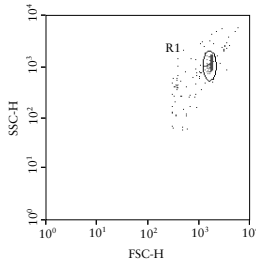

Figure 2a
Adjust gate R1 so that the singlet bead population is located in gate R1 (*Figure 2a*).
6. In setup mode, run tube no. 1, and using the FSC vs. SSC dot plot, place the R1 region gate around the singlet bead population (see *Figure 2a*).